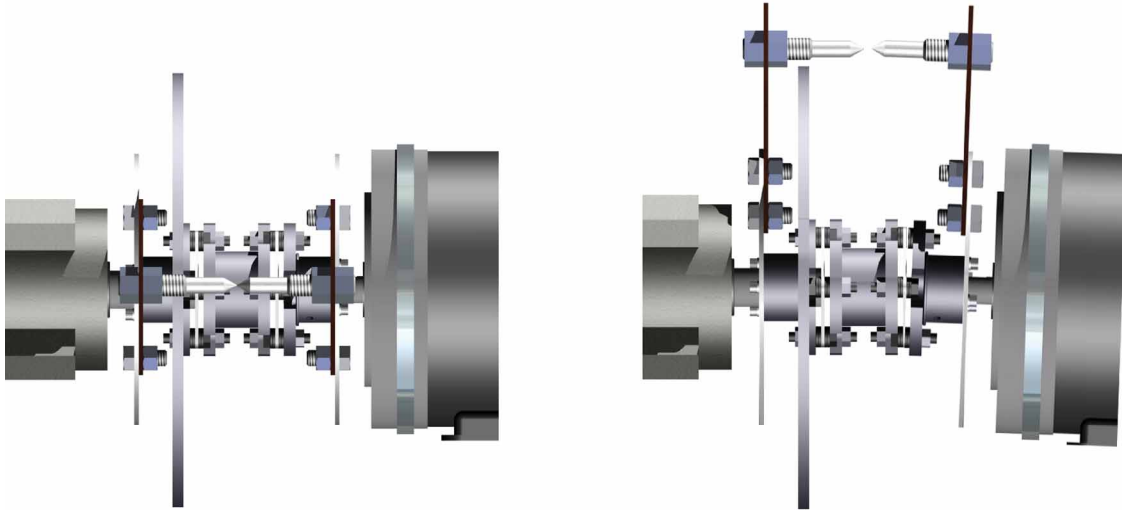

Figure 2-63. Horizontal offset (view from the top).
51. (Horizontal plane misalignment) Rotate the shaft between the 0° and 90° positions. Correct for any angular offset (Figure 2-63) by loosening the generator bolts and slowly moving the generator sideways. Retighten the bolts.